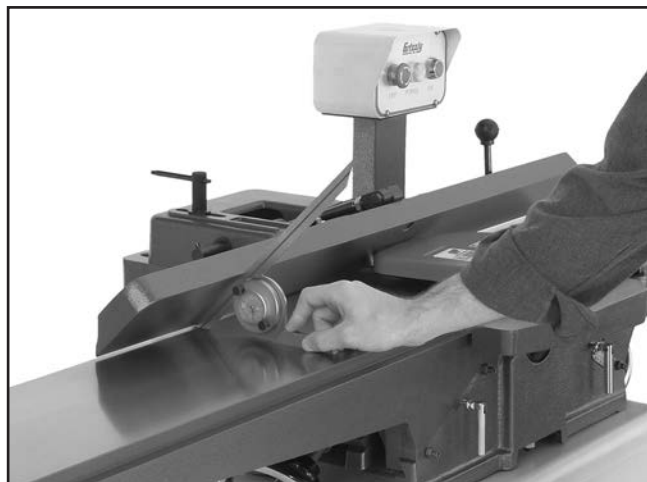

Figure 68. Example of adjusting fence 45° inward.
1. Use a 45° square to adjust fence to 45° inward position, as shown in **Figure 68**.